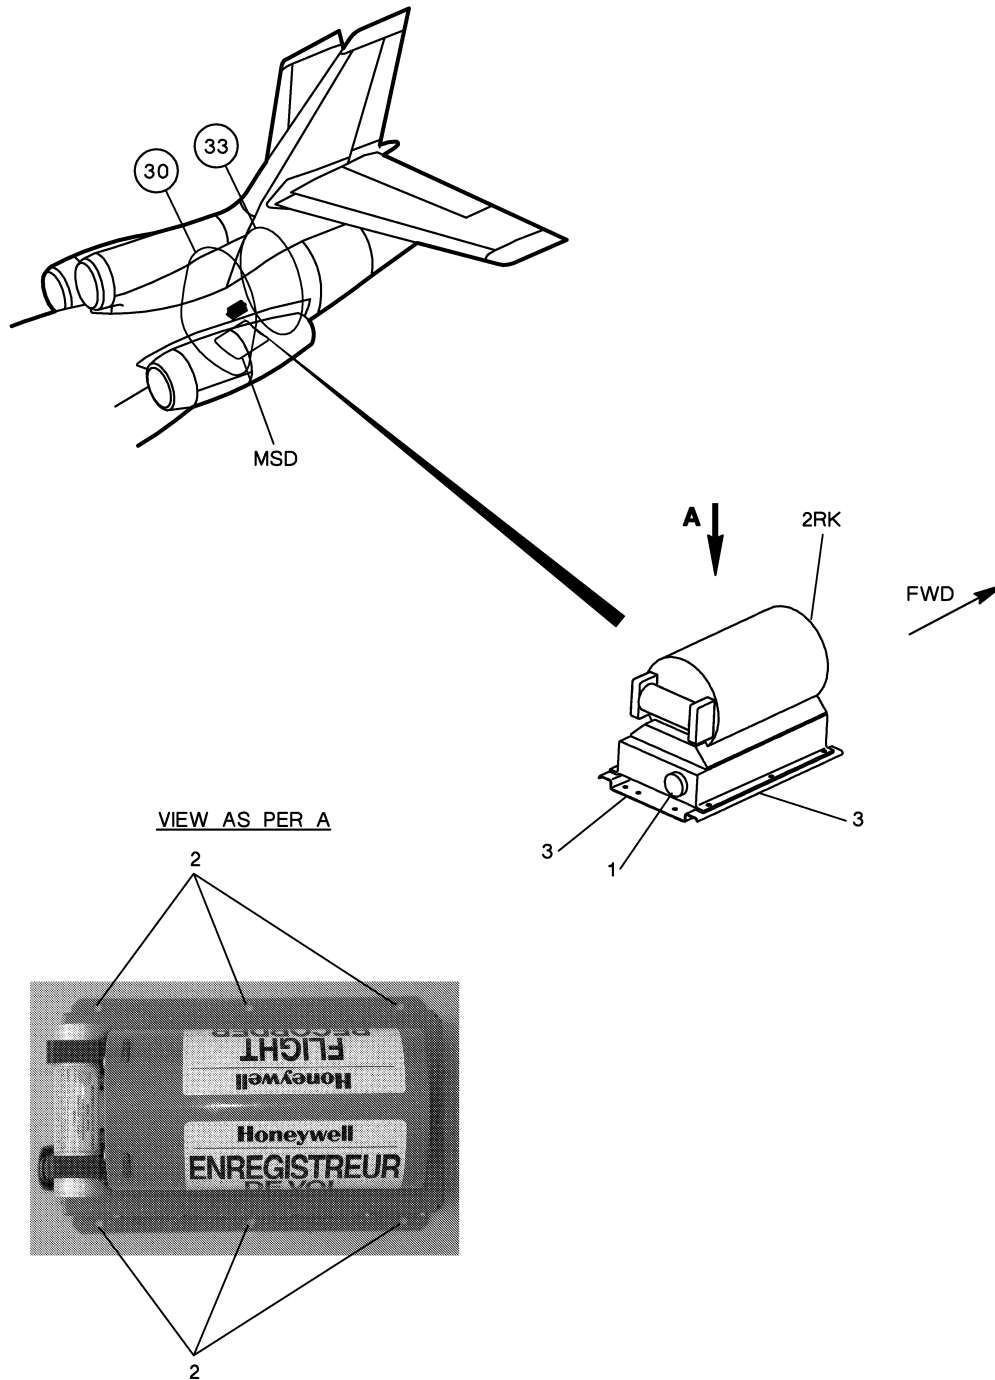
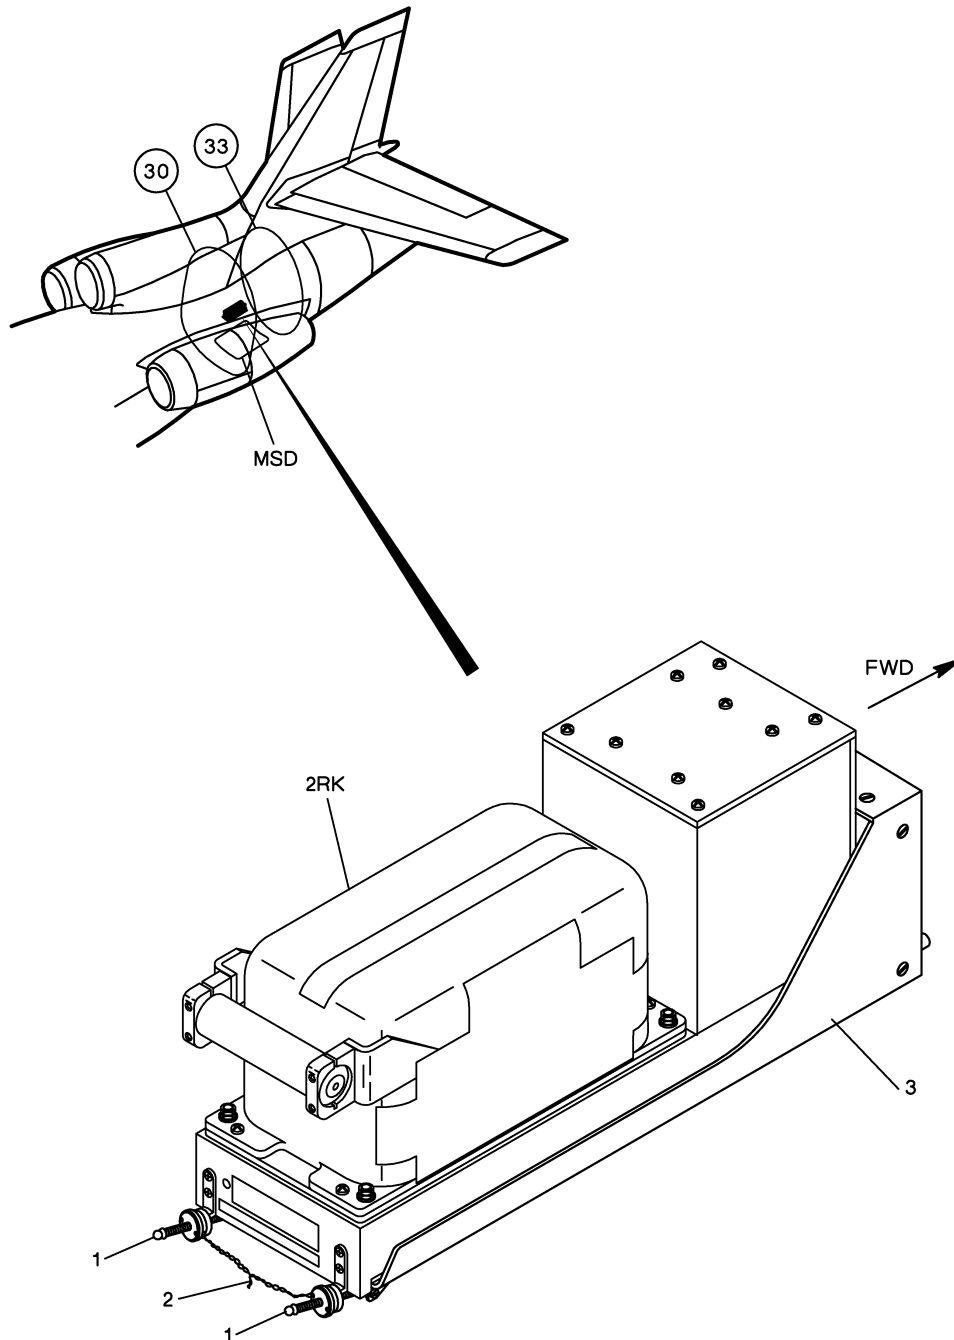

Figure 2: Removal/Installation of ALLIED SIGNAL "AR-Series" CVR (A/C WITH M 2819 OR M 2841)
Figure 3: Removal/Installation of ALLIED SIGNAL "Solid State" CVR (A/C WITH M 2022 or M 2818)
A. Removal of ALLIED SIGNAL "AR-Series" CVR (**2RK**) (A/C with M 2819 or M 2841) (**fig. 2**)
(1) In the mechanic's servicing compartment (**MSD**):
- (a) Disconnect the electrical cable from connector (1).
- (b) Remove the six screws with their washers (2).
- (c) Carefully extract CVR (**2RK**) from its support (3).
B. Removal of ALLIED SIGNAL "Solid State" CVR (**2RK**) (A/C with M 2022 or M 2818) (**fig. 3**)
- (1) In the mechanic's servicing compartment (**MSD**):
- (a) Unsafety the two quick-disconnect locks (1) by cutting lockwire (2).
- (b) Loosen and clear the two quick-disconnect locks (1).
- (c) Carefully extract CVR (**2RK**) from its support rack (3).
A. Installation of ALLIED SIGNAL "AR-Series" CVR (**2RK**) (A/C with M 2819 or M 2841) (**fig. 2**)
- (a) Position CVR (**2RK**) on its support (3).
- (b) Tighten the six screws with their washers (2).
- (c) Connect the electrical cable to connector (1).
B. Installation of ALLIED SIGNAL "Solid State" CVR (**2RK**) (A/C with M 2022 or M 2818) (**fig. 3**)
- (a) Position CVR (**2RK**) on its support rack (3) and bring it in contact with its locating pins.